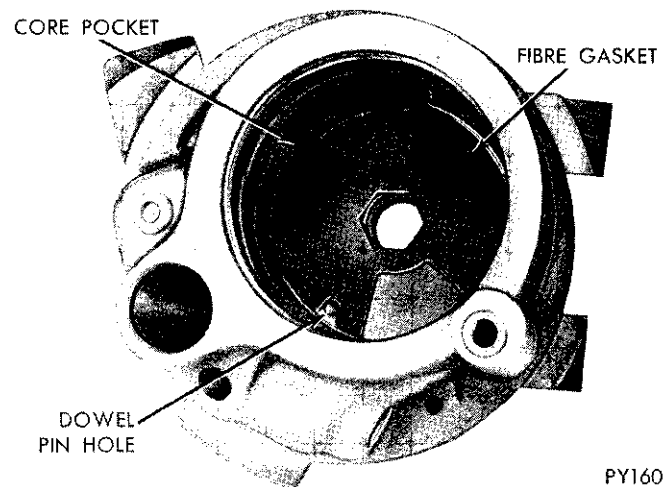

Fig. 25—Fibre Gasket Installed
- (1) Install 1/8 inch pipe clean out plug. Tighten to 80 inch-pounds.
- (2) Place pump body on flat surface and drive new shaft seal into bore with Tool C-4061.
- (3) Install new end cover, "O" ring in groove in pump bore. Lubricate with power steering fluid.
- (4) Lubricate new large pump body to reservoir "O" ring and install on pump body.
- (5) Install new fibre gasket and brass seal plate to bottom of housing floor (fibre gasket on floor and brass seal plate on top of fibre). Note: **Pumps originally built with brass seal plate only, must be serviced with both brass seal plate and fibre gasket. Align index notches in plate and gasket with dowel pin hole in housing; cut-out sections of gasket and plate should be in line with core pockets on side of housing bore (Fig. 25). Caution: Pump will not operate properly if either gasket or seal plate are improperly installed.**